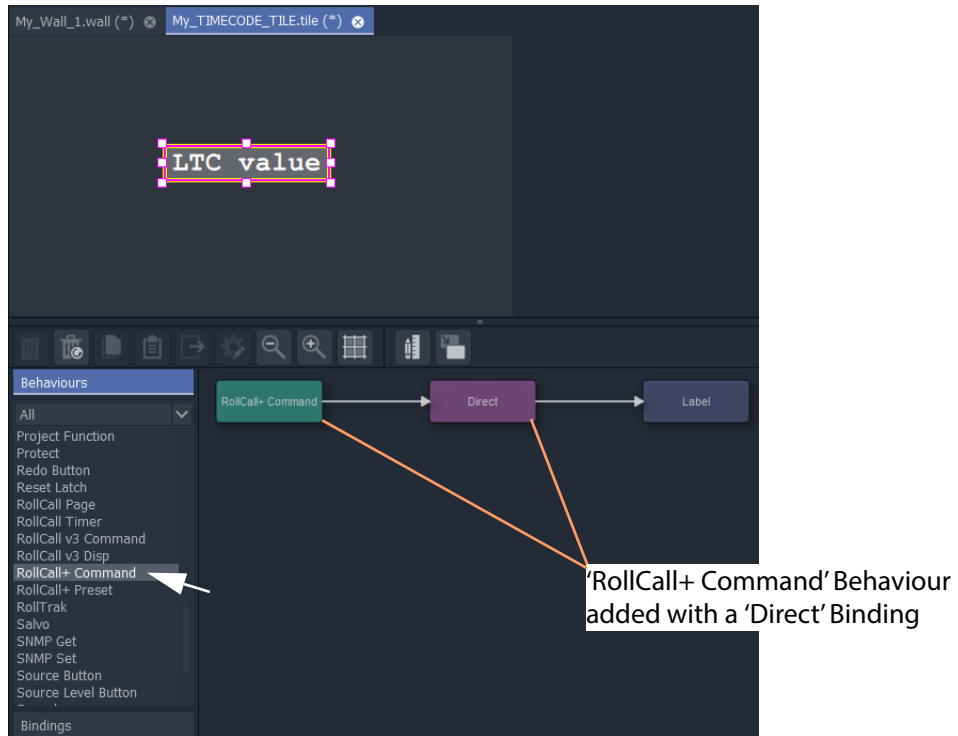

Fig. E-8: Add 'RollCall+ Command' Behaviour (with a 'Direct' Binding)
- 5 Click on the 'RollCall+ Command' Behaviour to add it to the editor. See Figure E-8.